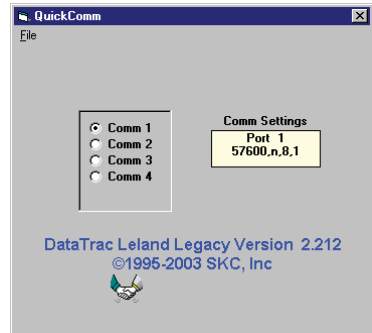

Figure 2A. Successful Communication
6. Select a communication port. Port selection will depend upon your computer type; most computers use Port 1 or 2. Click on the Open Port Button. An incorrect selection displays an error message. A correct selection will display a shaking-hands icon in the QuickComm window (Figure 2A).